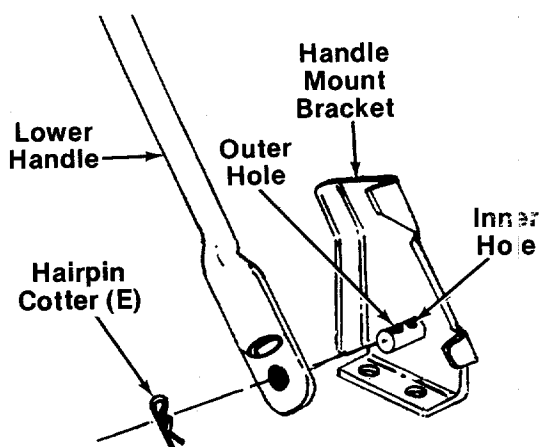

FIGURE 2.
- A (1) Cable Bracket
- B (2) Curved Carriage Bolts 5/16-18 x 1.38" Long
- C (2) Lock Washers 5/16" I.D.
- D (2) Hex Nuts 5/16-18 Thread
- E (2) Hairpin Cotter pins
- F (2) Cable Ties
- G (4) Hub Caps (Optional—Not Shown)
3. Place lower handle in position over weld pins in handle mount brackets on deck. Make certain the instruction label on the lower handle can be read from the operating position. Secure by placing hairpin cotter (E) in inner hole on weld pins. See figure 2.